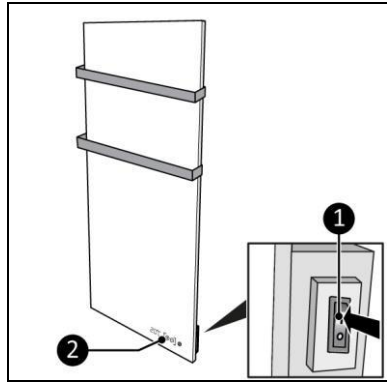

Figure 14
1. Set the ON/OFF switch to the ON position (Figure 14, pos. 1).
2. The control panel and display (Figure 14, pos. 2) will light up.